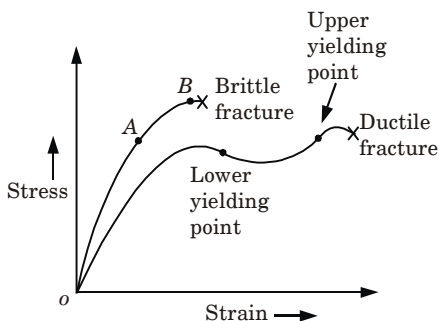

Fig. 2.4.1.
- (Fig. 2.4.1) shows the stress-strain diagram for the ductile and brittle fracture of material.